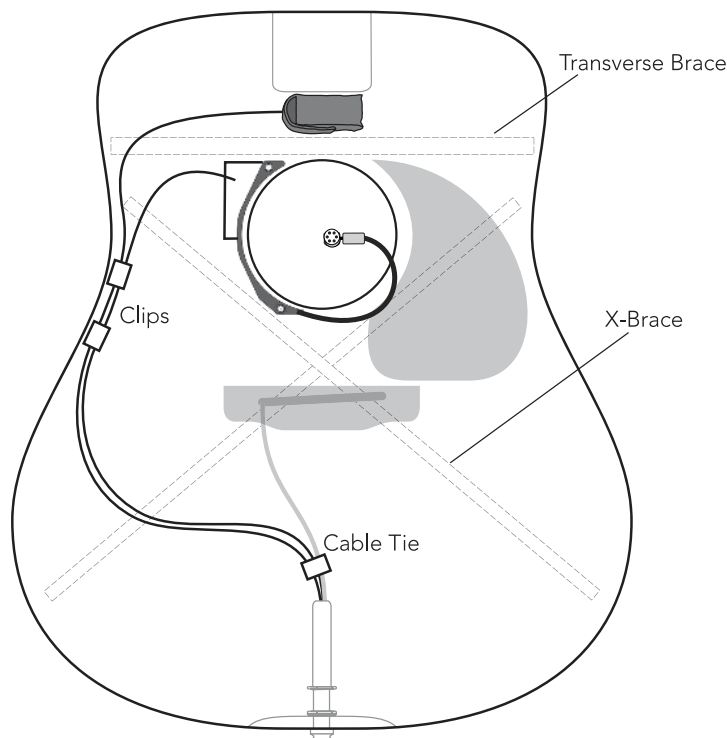

Figure 1.
1. Locate the module flush with the edge of the soundhole, on the bass side. Center the module between the transverse brace and the bass-side x-brace (figure 1).
5. Secure the wires to the side of the guitar with the included adhesive backed clips and cable tie (figure 1).